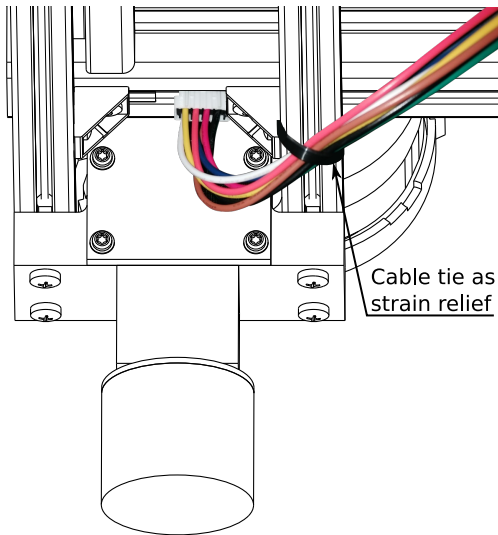

Figure 36: A cable tie firmly attaches the cable close to its connector. The cable is locked in place, reducing wear and tear on the connector.
It is absolutely paramount to attach each cable to a solid attachment point close to its connector. A good example is using cable ties wrapped around an aluminum profile. See Figure 36 below.
- on the Molex cable as it attaches to the actors (see Figure 36,)